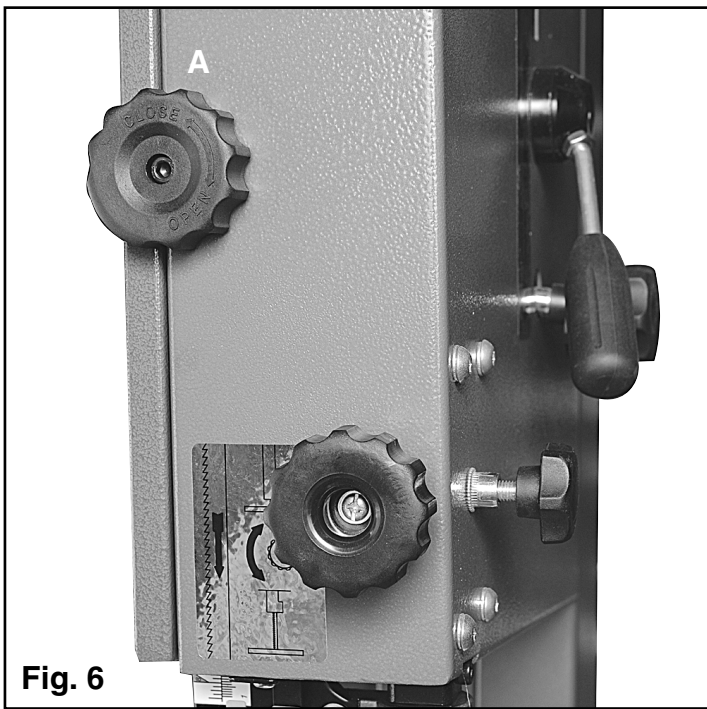

Fig. 6
- Open the wheel covers top and bottom, by turning side knobs Fig.6 A.